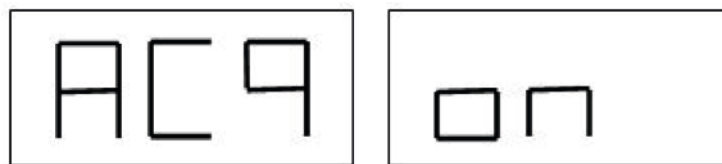

Figure F3.10. "Balancing planes acquisition enabled" message
2. Select the plane balancing acquisition mode by pressing [P2] until the writing ACq is viewed on the left display as shown in figure F3.10. When the machine is switched on, the acquisition mode is set by default ;